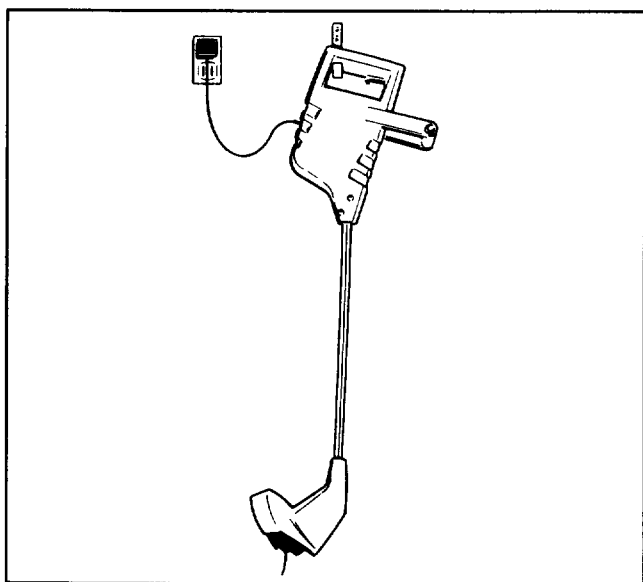
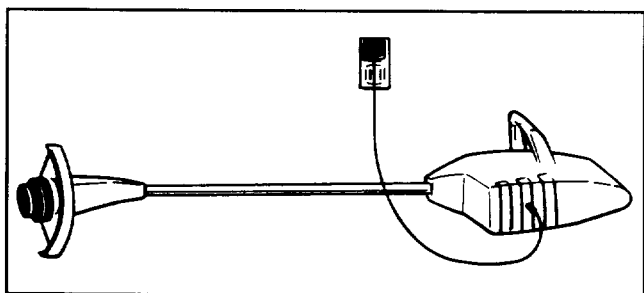

Figure 8
Figure 9
2. Hang trimmer upright from a solid hook (Fig. 8) or lay trimmer on its right side on a flat, solid surface away from combustible liquids, gases or materials. Position trimmer on side as shown in Figure 9.